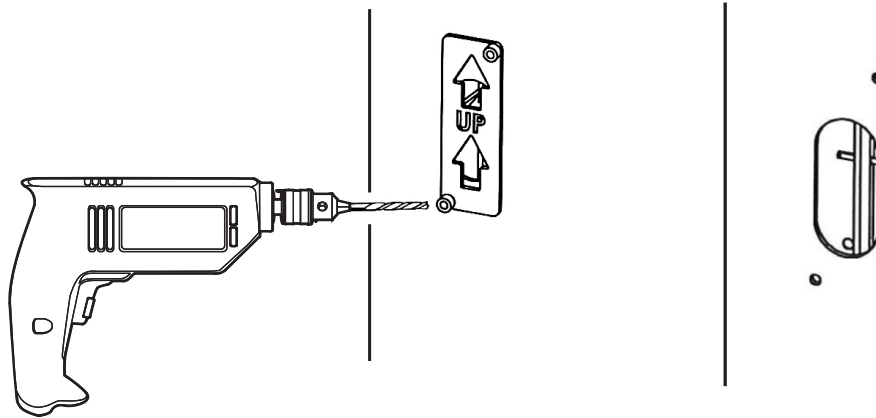

Figure 30
- Using a #7 drill bit, drill two (2) holes completely through the door, making sure the drill remains square to the face of the door. (Figure 30)